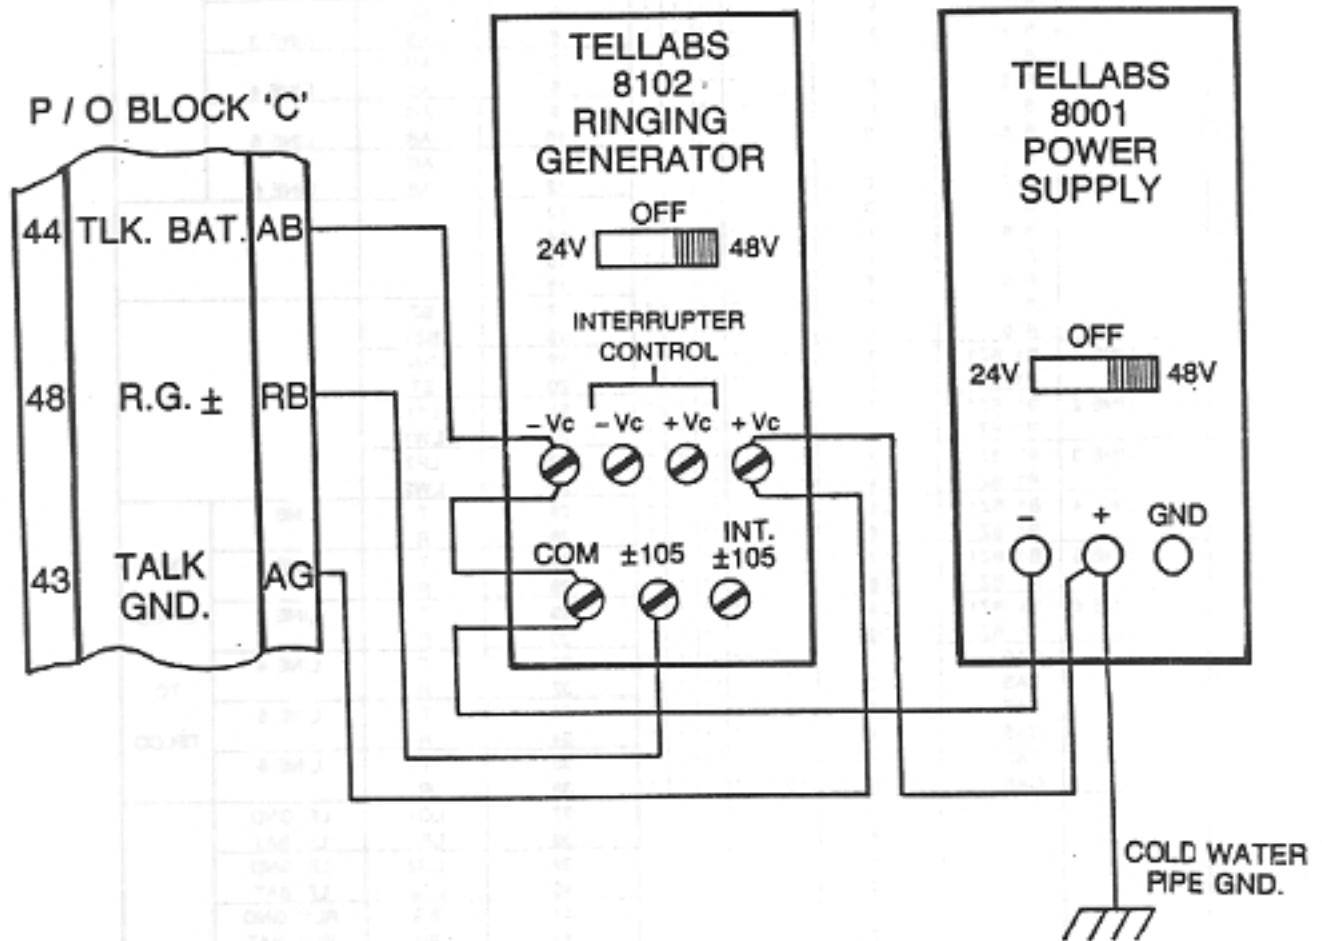

Figure 6 CONNECTING 6 CARD KSU TO POWER SUPPLY AND RINGING GENERATOR
**4.06** Ground the KSU and Power Supply by connecting a 14 AWC wire to the positive ( + ) terminal on the Power Supply and a cold water pipe ground ( Figures 6, 7 ).
**4.07** Connect the 6 Card or 13 Card KSU to the Power Supply and Ring Generator as follows ( Figures 6, 7 ):
To connect the 6 Card KSU to the Power Supply and Ringing Generator ( Figure 6, Table 3 ):